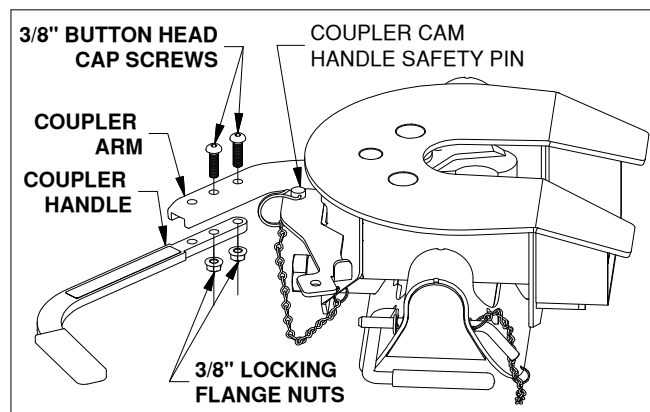

FIGURE D1: View looking down at side of coupler head.
1. Locate the two 3/8" x 1-1/4" button head cap screws and the two 3/8" flanged lock nuts provided in a bolt bag. Pull out the coupler arm and pin it with the safety locking pin near the base of the arm as shown in figure D1.
2. Using the button cap screws and the lock nuts attach the coupler handle to the arm and tighten, see figure D1. Pull out the coupler cam handle safety pin.